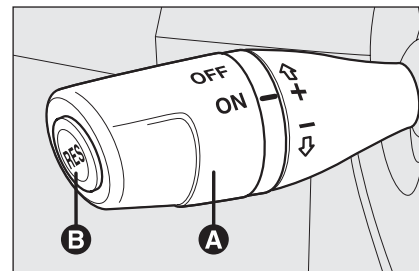

fig. 39
Turn knob **A**-fig. 39 to **ON**.
- turn knob **A**-fig. 39 to **ON** and press the accelerator pedal to the required speed;
- press button **RES B-fig. 39**.
- pressing the accelerator pedal; in this case the system is not really disengaged but the request for acceleration takes priority over the system. The cruise control is however active and it will not be necessary to press button **RES B-fig. 39** to resume previous conditions after ending acceleration.